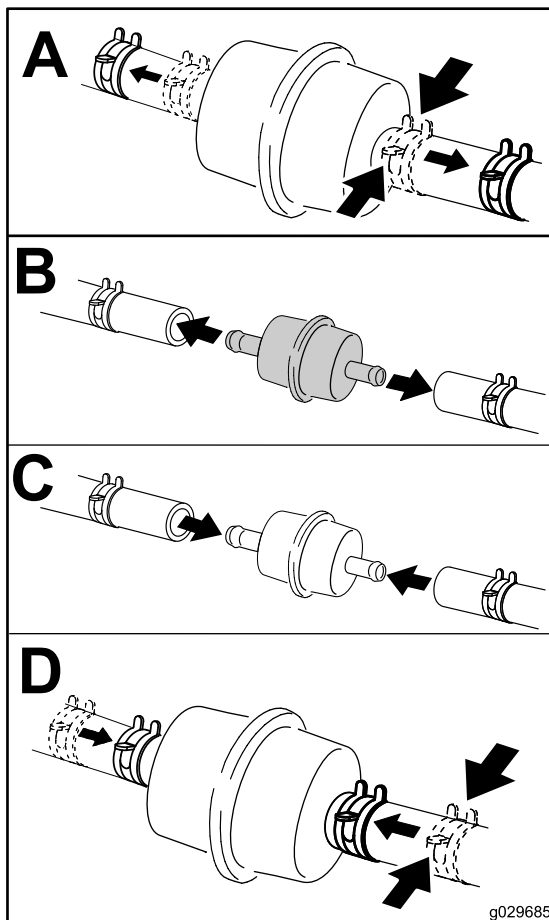

Figure 43
5. Replace the fuel filter (Figure 43).